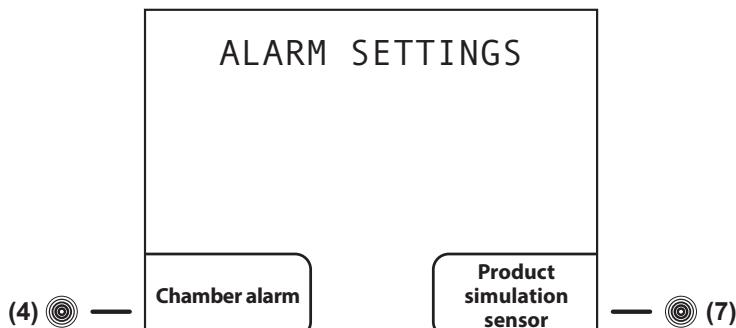
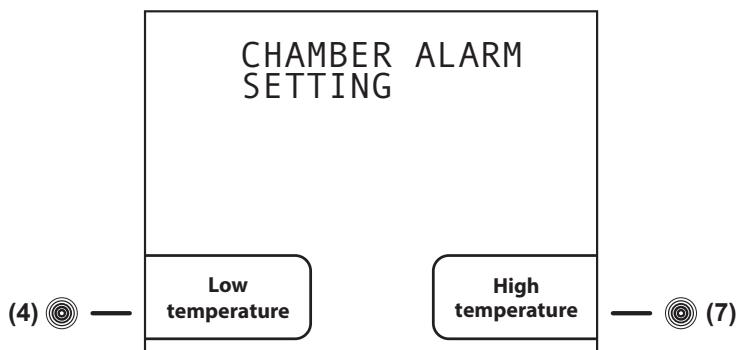
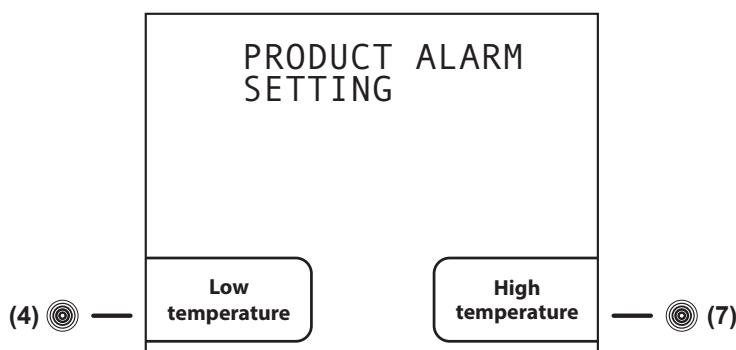

Fig.17
Fig.18
Fig.19
Into the ALARM SETTING menu, there are present 2 sub-menus (**Fig.17**) that allow to modify the alarm limits both related to the chamber temperature and to the product simulation (if the optionally available extra sensor is installed).
- from the sub-menu ALARM SETTINGS (**Fig.17**) press the **touch-button (4)** to access to the screen-shot CHAMBER ALARM SETTING (**Fig.18**).
- from the sub-menu ALARM SETTING (**Fig.17**) press the **touch-button (7)** to access to the screen-shot PRODUCT ALARM SETTING (**Fig.19**)